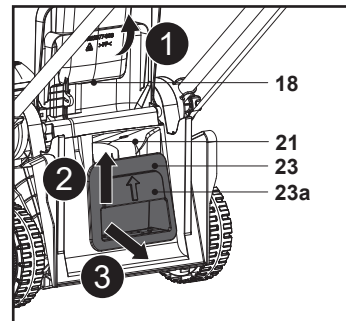

Fig. 16
2. Lift the recess handle (23a) and then pull the mulching insert (23) out of the rear discharge chute (21), then remove the mulching insert (23) (Fig. 16).